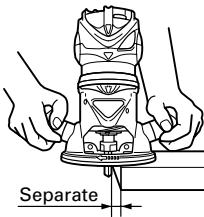

Fig. 11
- (1) The bit must be kept clear of the materials which are to be cut, when the power is being turned on. (**Fig. 11**)